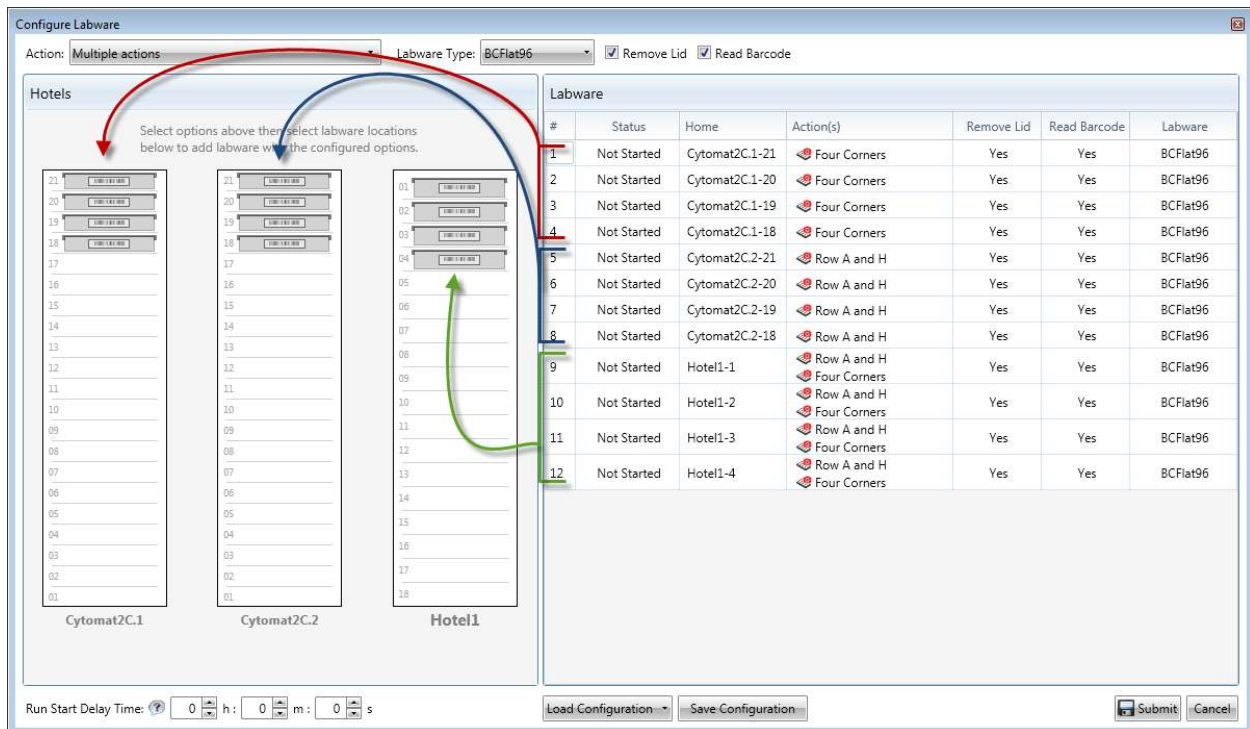

Figure 6 – Selecting Hotel Position for Labware
Clicking the **Configure Labware** button on the top menu displays the **Configure Labware** window (Figure 6). The window is divided into four sections. At the top of the window are controls for selecting one or more protocols and/or journals to run, the type of labware used, as well as whether or not the labware is lidded and whether or not to read the barcode. The **Hotels** section is used to select the hotel shelves of the configured labware. The **Labware** section shows information about the configured labware in table format. At the bottom of the screen are controls for specifying a run start delay, to load and save the configuration, and buttons for submitting or cancelling a labware configuration.
12. Select the desired shelf positions for the labware configuration shown at the top of the window by clicking on the desired position(s) in the **Hotels** layout (Figure 6). Multiple shelves can be selected by clicking on them. Multiple adjacent shelves within a hotel can be selected by rubber-banding multiple positions. A whole hotel can be selected/deselected by hovering the mouse pointer over the hotel name and clicking the **+** or **X**.